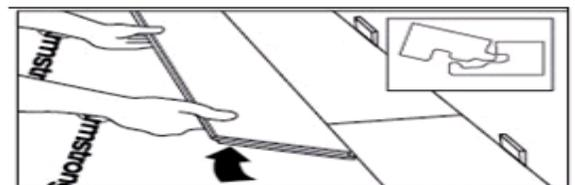

Fig. 11
10. Install the long end of the first board at an angle to the board in the previous row. Keep this board at its natural angle slightly raised off the subfloor (Fig. 11). Use a scrap piece of laminate to support the row if needed.